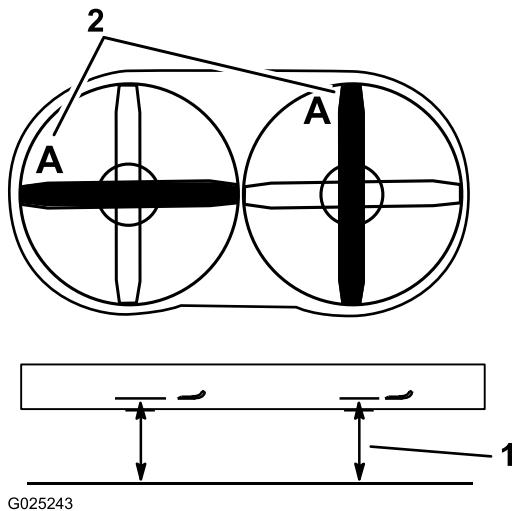

Figure 65
- Rotate one blade as shown in Figure 65.
- Measure from a level surface to the cutting edge at position **A** of the blade (Figure 65). Note this dimension.